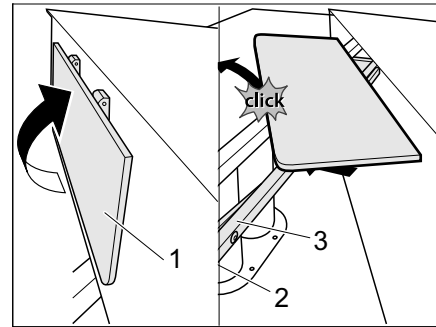

Fig. 118 Position the support edge
- Unlock the support edge (Fig. 118,1) and swivel it upwards until it locks into place.